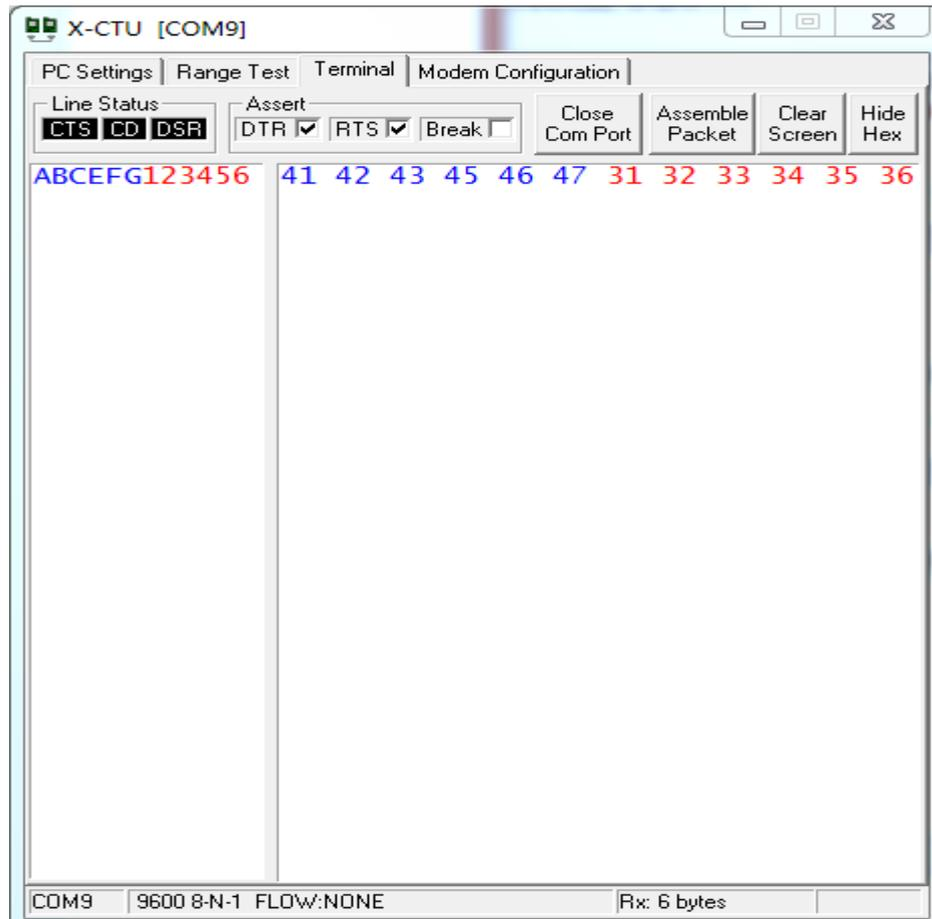

Figure 8: The X-CTU terminal of XBee-B
- 8) Figure 8 shows the normal operating state of XBee module. You can use XBee modules to perform wireless communication in Arduino projects. It is easy to done, transmitting the data to be sent to XBee-A via the serial port of Arduino development board-A, then, receiving the data by XBee-B and reading it out on PC via the serial port of Arduino development board-B.